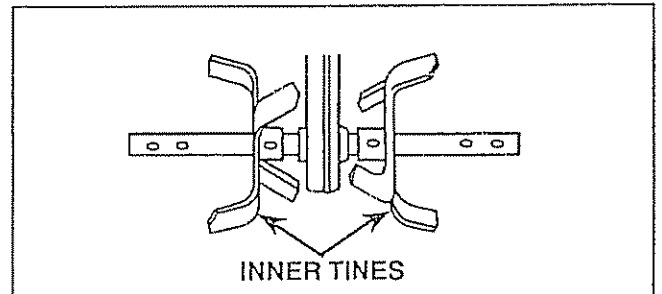

FIGURE 22
- NARROW TILLING - 10 - 1/4 INCH PATH (outer Tines off) (Fig. 22). Use this arrangement for narrow path tilling and final cultivation of crops in 15 inch spaced rows.